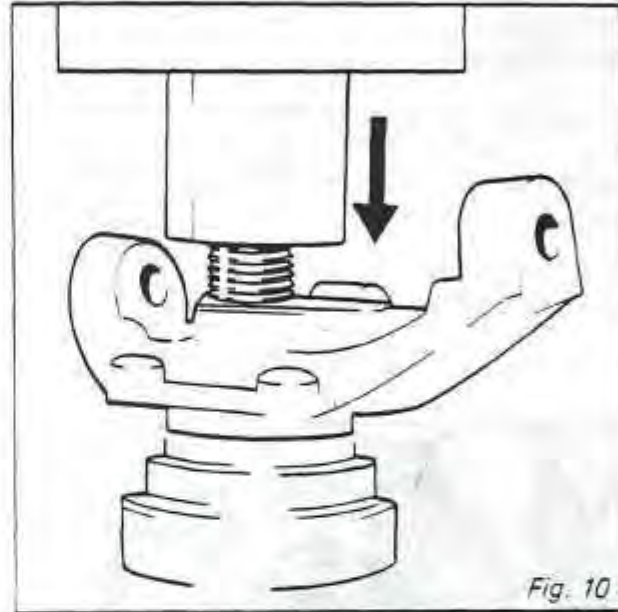

Fig. 10
13. Press spindle from steering knuckle as shown in *Fig. 10*